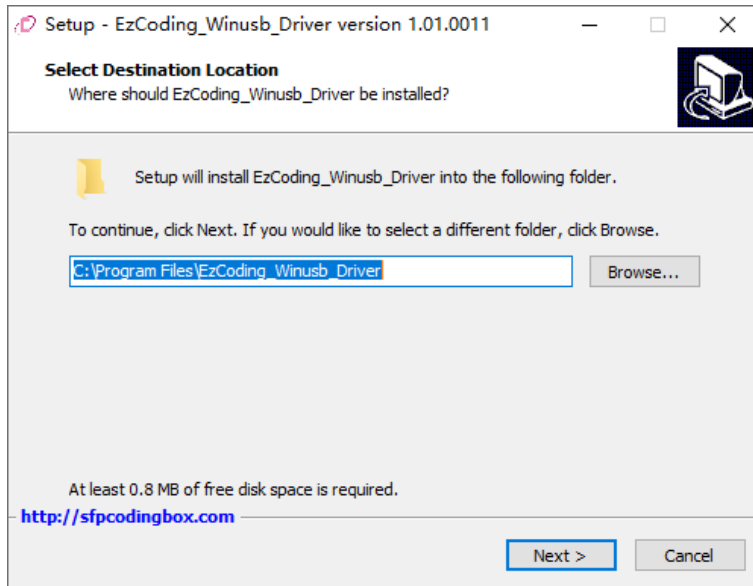

Figure 1 Driver Installation Step 1
- (3) Basic Information of the Selected Configuration File: Includes the configuration file name, number of continuous write bytes, switching between professional module mode and normal mode, and automatic reading of module data when a module is inserted.
- (4) Configure the save and open properties of data tables for .ezc files.
- (5) Configure the properties of the readall and write buttons in Figure 1 for data tables. It is recommended not to check A0Low and A2Low.
- (6) Set the properties of all data tables in the current configuration to be consistent.